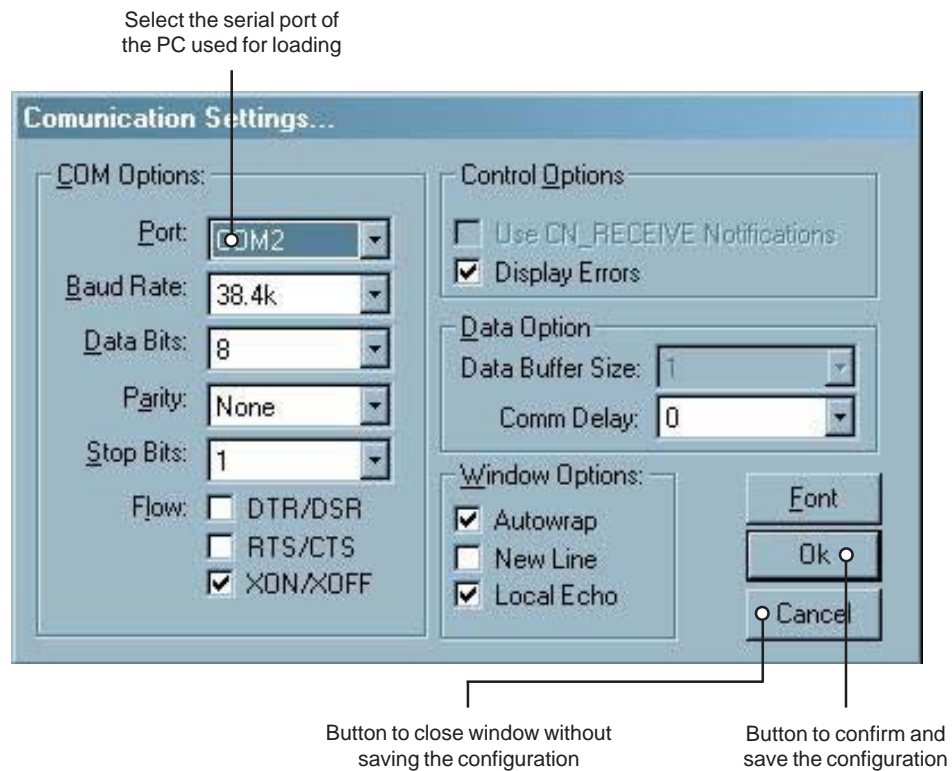

Fig. 3
**Note:** do not modify any other fields shown in the window of Fig. 3